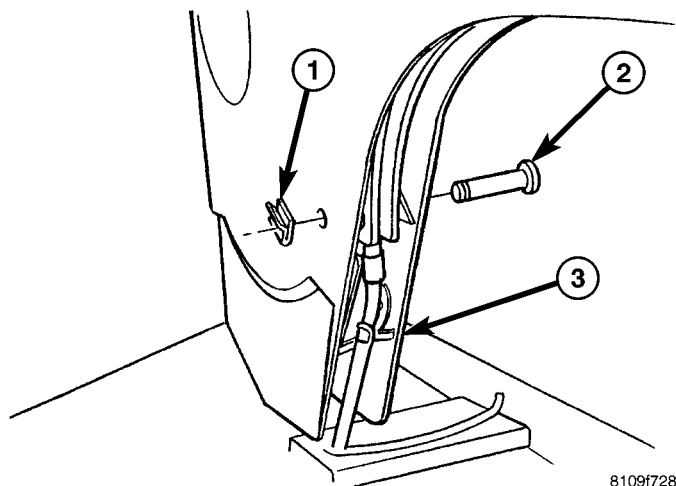

Fig. 29 FRONT PARK BRAKE CABLE AT LEVER
- (1) Raise and support the vehicle.
- (2) Disconnect the front park brake cable from the pulley unit.
- (3) Remove the front park brake cable from the hand brake lever (Fig. 29).
(3) Install the front park brake cable to the hand brake lever (Fig. 29).
- (1) Disconnect the front brake cable from the pulley unit.
- (2) Remove the front brake cable from the hand brake lever (Fig. 29).